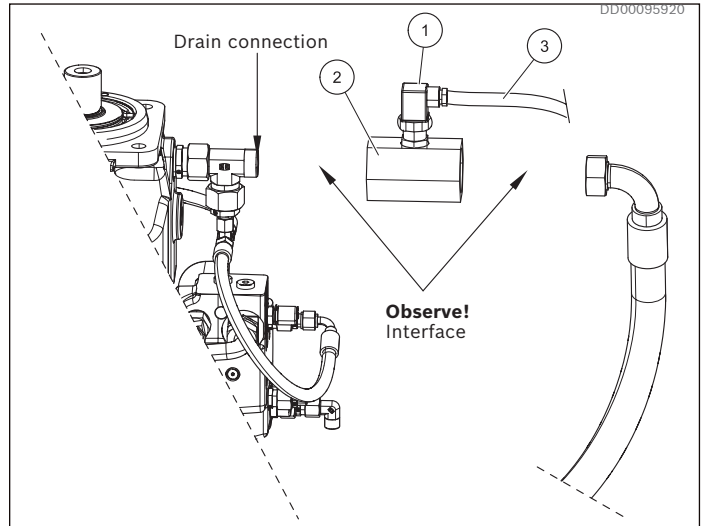

Fig. 18: Example temperature sensor, adapter tube and cable
2. Temperature sensor could be used for different types of monitoring, e.g. in tank or in drain from motor or pump (see Fig. 18).